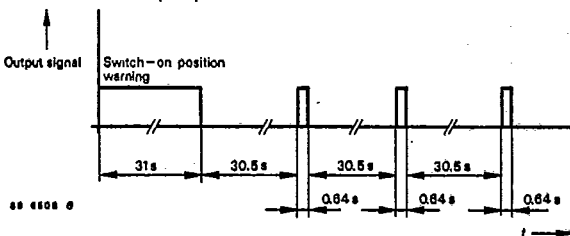

Fig. 6 Output signal: Switch positioning warning Plug-in fail state
- a) Switch-on position warning follows after mains plug insertion $-V_2 = 0\text{ V}$ - horizontal position. Output signal generates a constant signal of 31 s. It follows with 30.5 s intermission (pause) and 640 ms pulse (t_p - pulse time) duration sequence continuously as shown in Fig. 6. A signal change on motion switch (detector) input of $t \geq 40\text{ ms}$ duration generates a timer-reset which resets the output position.
- a) Switch-on position follows after mains insertlon in the position of 1, 3 and 4. It creates a signal as in U 2605 B, see also Fig. 6.